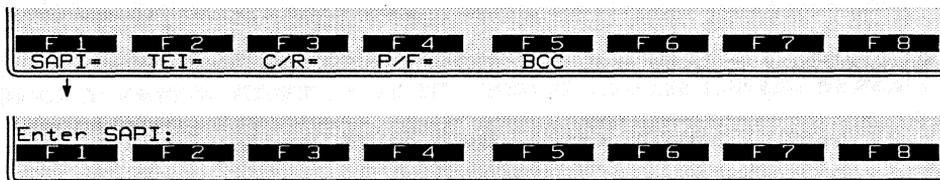

Figure 39-9 The hex value of the SAPI is entered as two alphanumerics.
6. **SAPI.** A SAPI condition may be added to all frame types. Press the softkey for SAPI=, shown in Figure 39-9. Then enter the 6-bit SAPI value as two hex digits in a range from 00 to 3F. (Do *not* use the **HEX** key.) The entry will appear as in this example:
To bypass the SAPI= selection (as well as the other options on the same rack of softkeys in Figure 39-9) press **DOWN**.